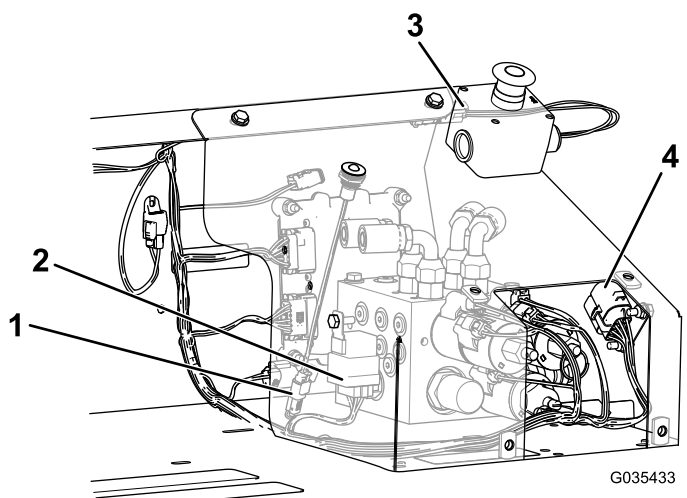

Figure 19
10. Connect the wire harness E-Stop connection, relay connection, diagnostic light connection, and fuse block into the appropriate adapters as shown in Figure 19.